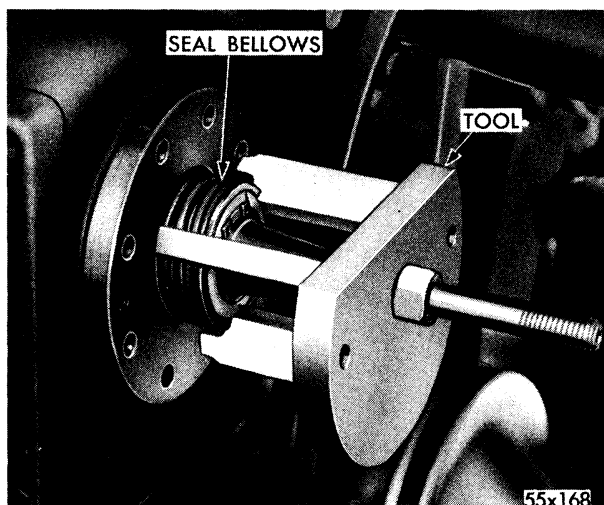

Fig. 16—Puller Installed (Tool C-3473)
- (1) Remove compressor front bearing end plate screws.
- (2) Install special puller (Tool C-3473), as shown in Figure 16.